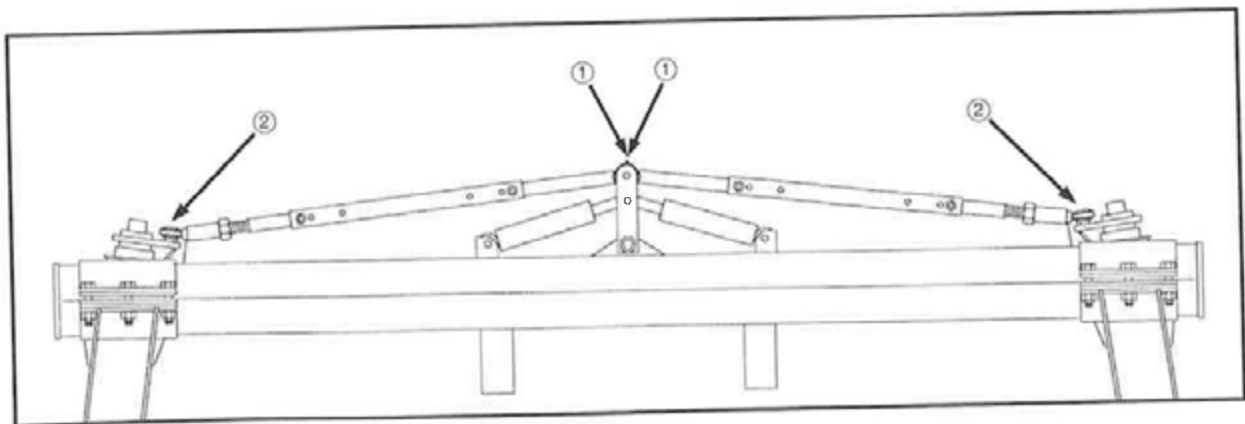

FIG 8.32
The tie rods connected to the steering legs have grease zerks on both each inner tie rod end (fig 8.32, item 1) and each outer tie rod end (fig. 8.32, item 2). To maintain freely operating steering, they should be serviced every 50 hours; check tie rod linkage daily.